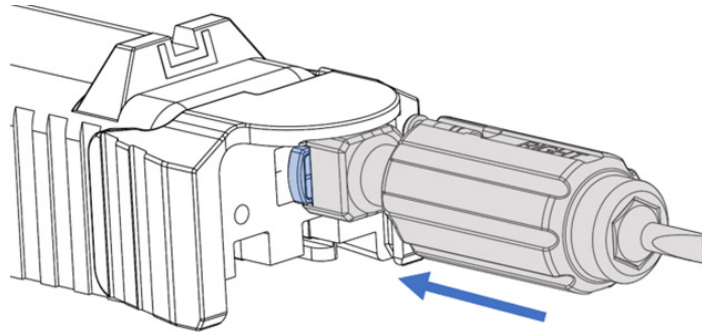

Figure 31: Positioning and direction of the Assembly Tool for RDC coil assembly.
7. Use the provided RISCpro Assembly Tool to push the RDC Coil into the housing, pay attention to the position of the Assembly Tool before push it in (see Figure 31).